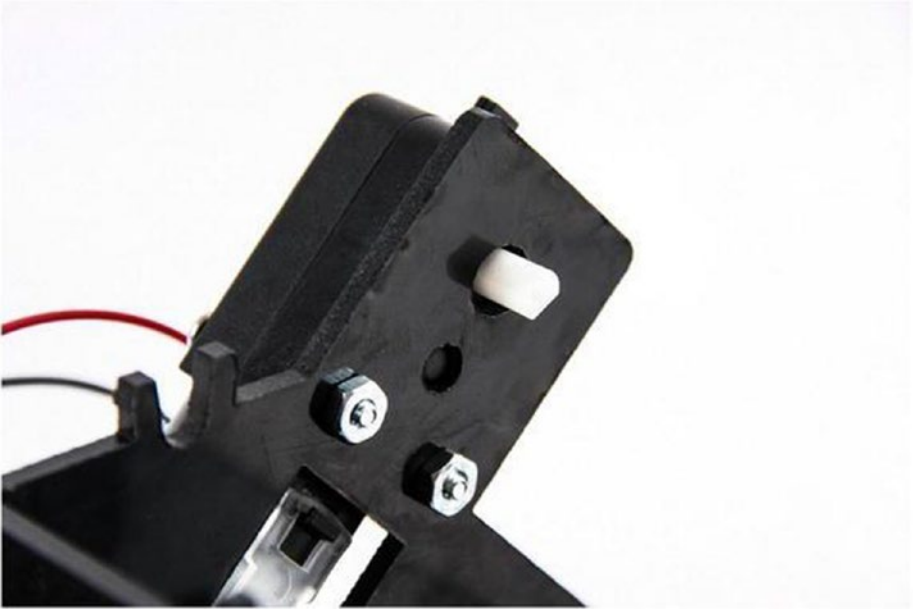

Figure 7-5. *Mounted motor*
2. Use two screws and nuts to hold the motor in place (see Figure 7-5). Although not included in the kit, some #4 split lock washers would be good to use here. If you don't have any, use Loctite Threadlocker Blue on the nuts. Without something to lock them into place, the nuts will rattle off.